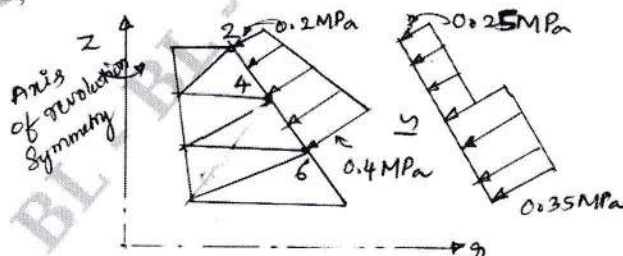

Fig.Q.3(b)
- An axisymmetric surface is shown in Fig.Q.3(b). Determine the equivalent loads at nodes 6, 4 and 2 the coordinates of nodes are point 6 are (60, 40)mm point 4 are (40, 55)mm and point 2 are (20, 70)mm, (10 Marks)